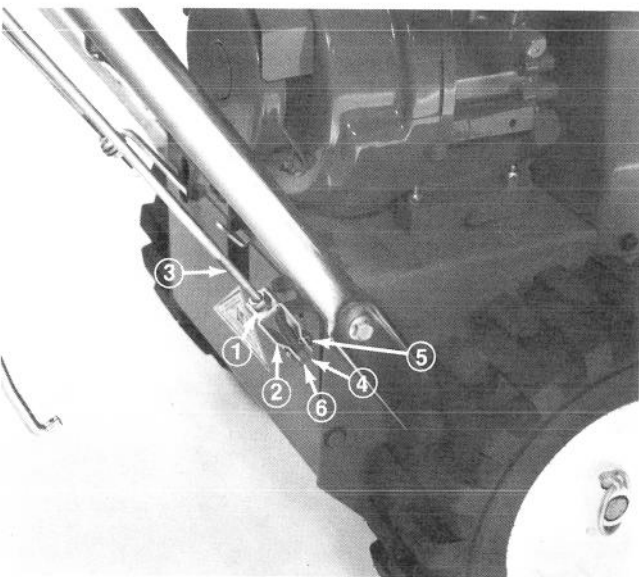

Figure 7
1. Loosen jam nut above clevis on upper control rod (Fig. 7).
2. Align holes in clevis and lower control rod, install with clevis pin (Fig. 7).
5. After adjusted, install clevis pin and secure with cotter pin. Tighten jam nut to secure clevis (Fig. 7).